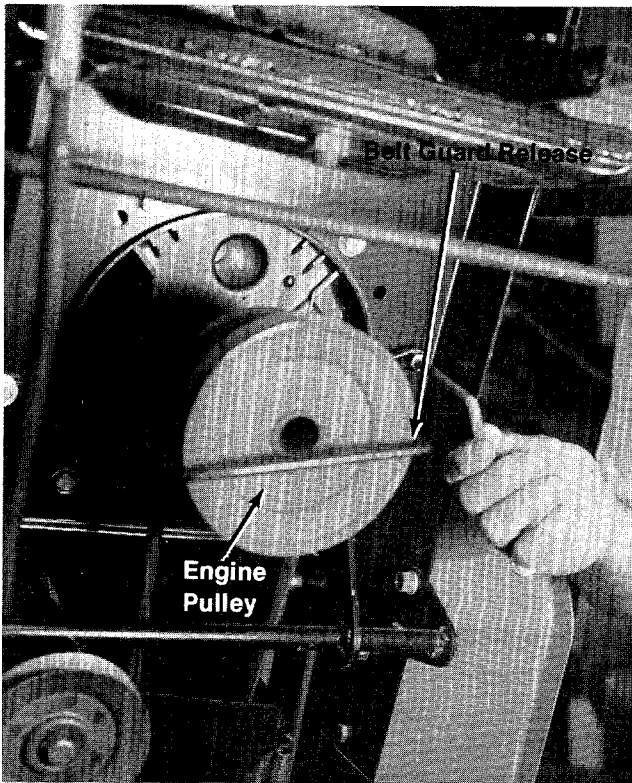

FIGURE 21
3. Unscrew the belt guard release next to the engine pulley. (See figure 21.)